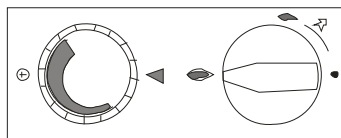

Figure 6- Main Burner Operational and Max. Gas Rate
3. Turn the GAS RATE ADJUSTING KNOB fully anticlockwise (until you reach the stop position) i.e. the maximum gas rate. See **Figure 6**.